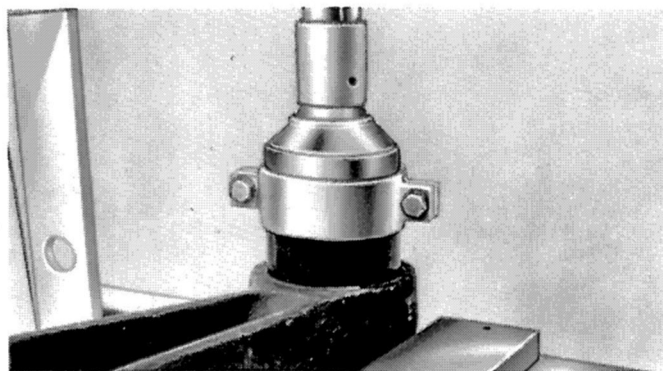

FIGURE 5
2. Position the end bushing removal/replacement adapter, with the tapered end facing away from the new bushing, onto the new bushing. Assemble and wrench tighten the Clamp (Item No. 2) onto the bushing and the adapter as shown in Figure 5 and 6.